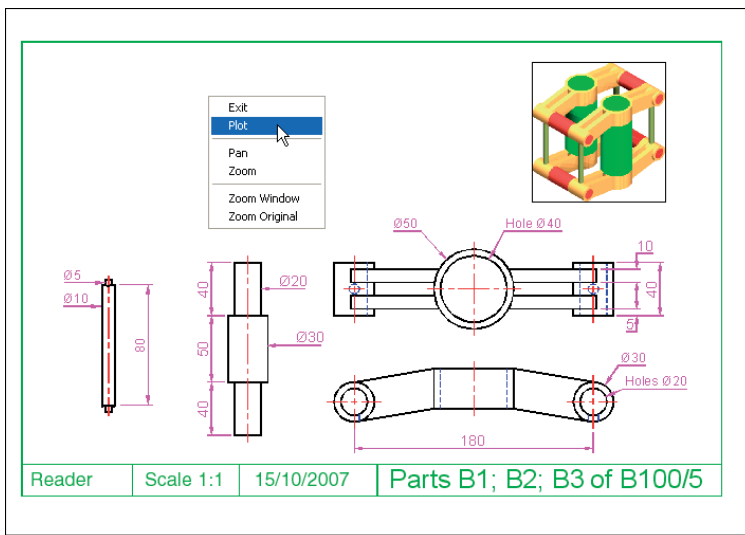

Fig. 20.9 Second example –
Second example – Printing/Plotting (Fig. 20.9)
4. If satisfied with the preview (Fig. 20.9), *right-click* and in the menu which appears *click* the name **Plot**. The drawing plots.